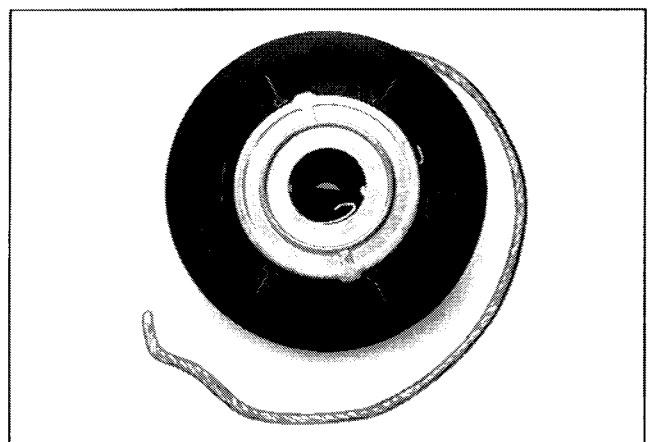

Figure 7-9. Position Of Spring And Keeper On Pulley.
10. Note the position of the spring and keeper assembly on the pulley. Also refer to Figure 7-9. (The spring and keeper assembly must be correctly positioned on pulley for proper operation.) Remove the spring and keeper assembly from the pulley as a package.
1. Make sure spring is well lubricated with grease. Position the spring and keeper assembly to pulley (side opposite pawls). The outside spring tail must be positioned opposite rope pocket. Refer to Figure 7-9.